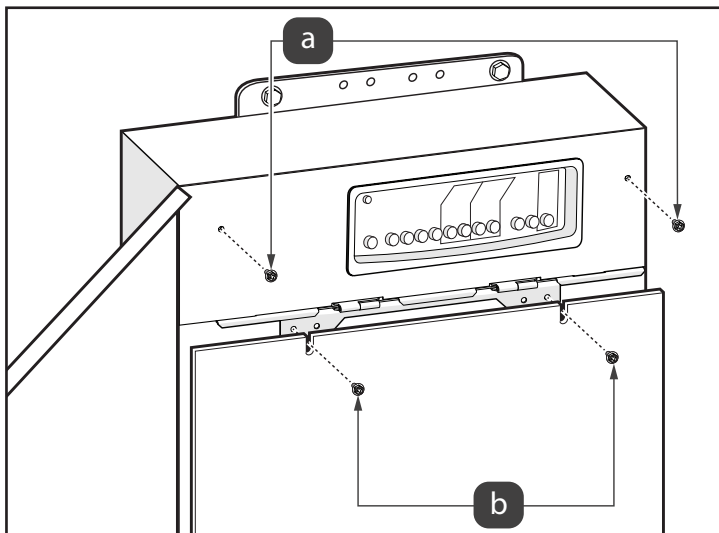

Figure 17. AquaLink® RS Conversion Kit Cover
2. Secure AquaLink RS Conversion Kit cover with 2 screws, see Figure 17(a).
4. Secure the cover panel to the power center using the screws removed in section 2.4, see Figure 17(b).